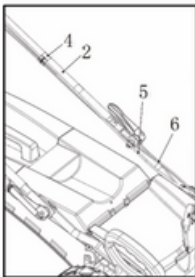

Fig. 3
7. Attach the self-propulsion cable (5) and the brake cable (6) using the clip (4) to the upper handlebar (2) (Fig. 3).